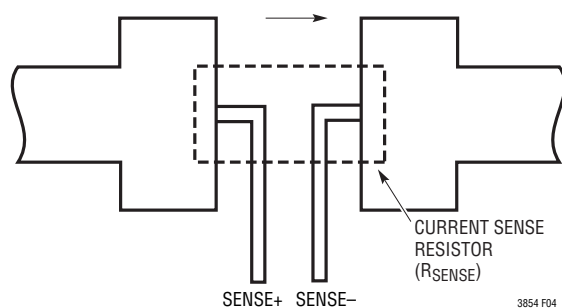

Figure 5. Kelvin Sensing R_{SENSE}
- 3) Are the SENSE⁻ and SENSE⁺ leads routed together with minimum PC trace spacing? The filter capacitor between SENSE⁺ and SENSE⁻ should be as close as possible to the LTC3854. Ensure accurate current sensing with Kelvin connections as shown in Figure 5. Series resistance can be added to the SENSE lines to increase noise rejection.
- 6) Keep the switching node (SW), top gate node (TG), bottom gate node (BG) and boost node (BOOST) away from sensitive small-signal nodes, especially from the voltage and current sensing feedback pins. All of these nodes have very large and fast moving signals and therefore should be kept on the “output side” (Pins 4,5,6 and 8) of the LTC3854 GND and occupy minimum PC trace area.